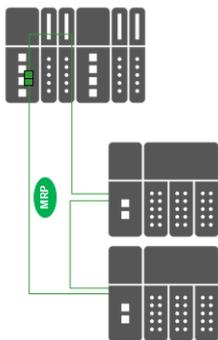

Fig. 12: Media redundancy
**Media redundancy** connects the several physical communication paths of the PROFINET devices: Devices and controllers (figure 12). In case of failure of a communication path (for example, a cable break), a second communication path is automatically used. See the PI document "PROFINET Media Redundancy" [7.212 e] for additional details.